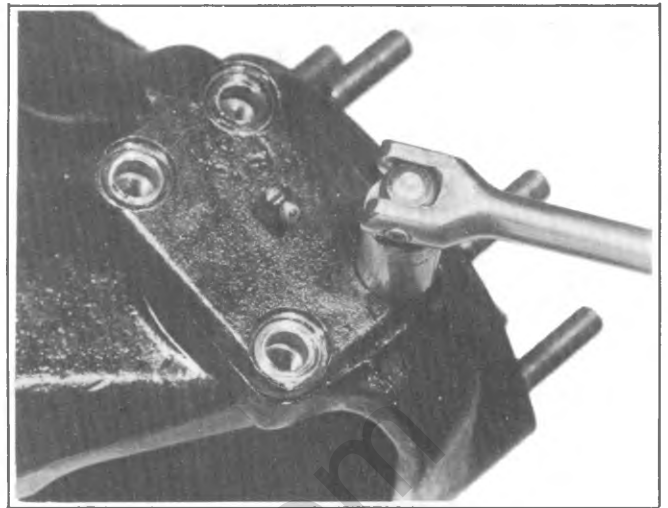

Fig. 3C-21K--Removing Lower Bearing Cap
3. Torque the yoke upper ball stud adjusting sleeve to 50 ft. lbs. using Spanner J-23447. See Figure 3C-15K.